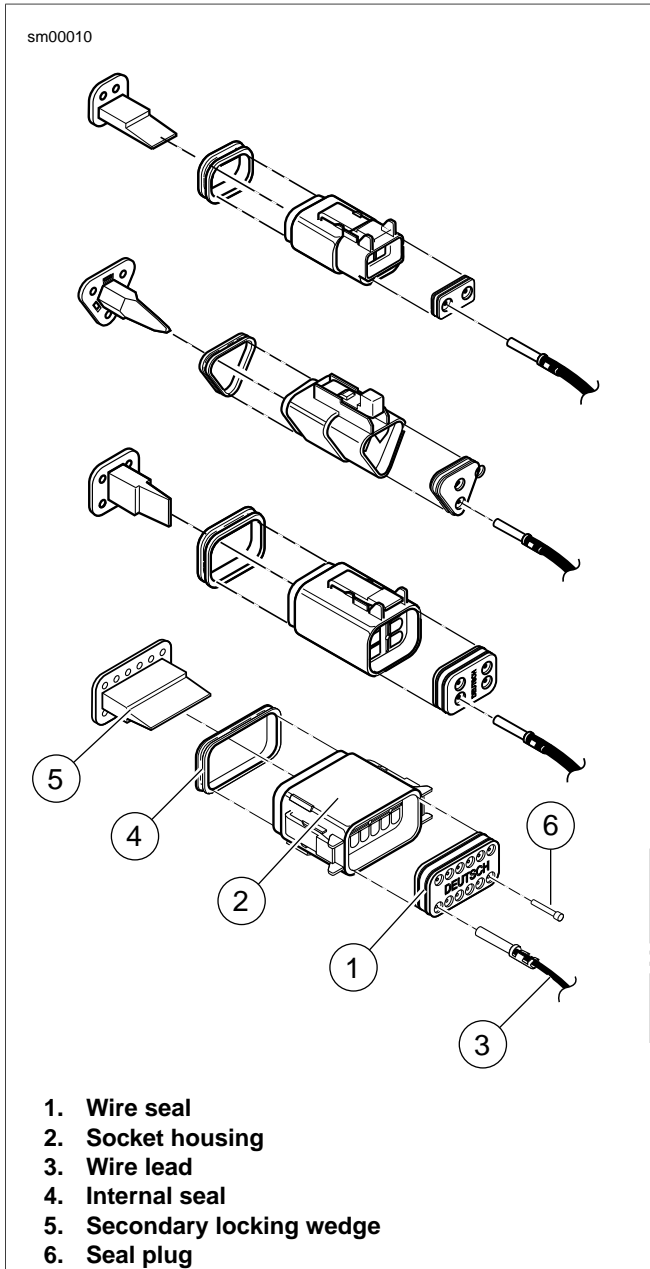

Figure A-18. Deutsch Connector: 2, 3, 4 and 12-Place Socket Housings
- See Figure A-18. Fit rear wire seal (1) into back of socket housing (2), if removed.
- Grasp wire lead (3) approximately 1.0 in. (25.4 mm) behind the socket terminal. Gently push socket through hole in wire seal into its chambers until it "clicks" in place.